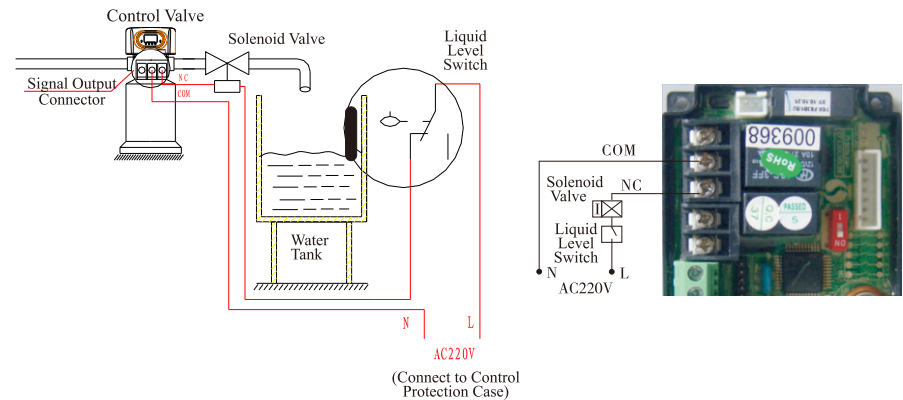

Figure 3-1 Wiring of Solenoid Valve on Outlet
①Solenoid Valve on Outlet Controls Water Level in Brine Tank.
**Instruction:** If system requires no hard water to flowing from outlet in regeneration cycle ( Mainly for no hard water flow out when valve is switching or valve in backwash or brine drawing status), a solenoid valve could be installed on outlet, the wiring refers to Figure 3-1.